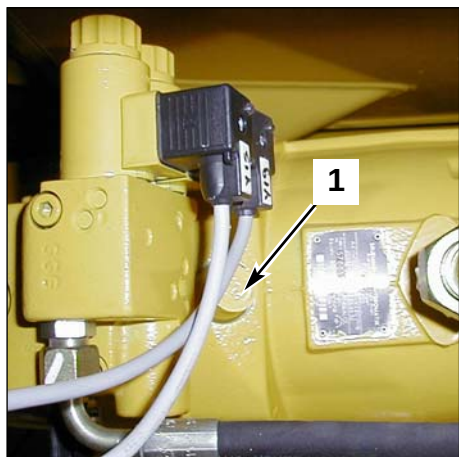

Fig. 1 Transfer movement engine
- 3- Turn the screw (1 fig. 1) anti-clockwise to increase the number of rpm.